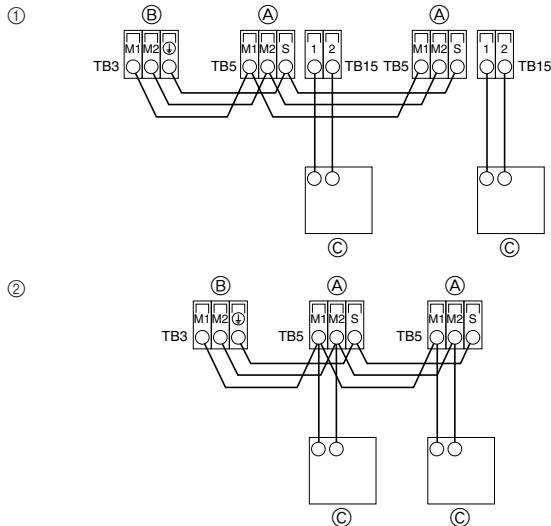

Fig. 4-2
4.2. Connecting remote controller, indoor and outdoor transmission cables (Fig. 4-2)
① MA Remote controller
② M-NET Remote controller